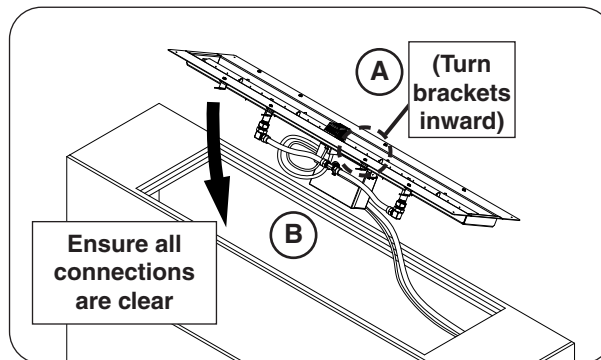

Fig. 28-2 Insert burner assembly
1. Ensure that the eight burner brackets are turned inward, then insert the burner assembly (see Fig. 28-2, A-B).